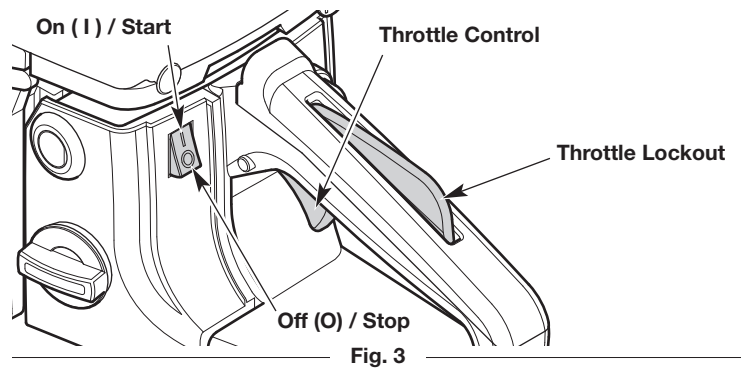

Fig. 3
5. Move the On/Off switch to the **On** position (Fig. 3).
NOTE: DO NOT touch the throttle control until step 14 (Fig. 3).
8. **DO NOT** touch the throttle control (Fig. 3). Set the unit on a flat, level surface. Clear the area of any objects that could contact the saw chain.
2. Move the On/Off switch to the **Off** position (Fig. 3). Wait for the saw chain to come to a complete stop.